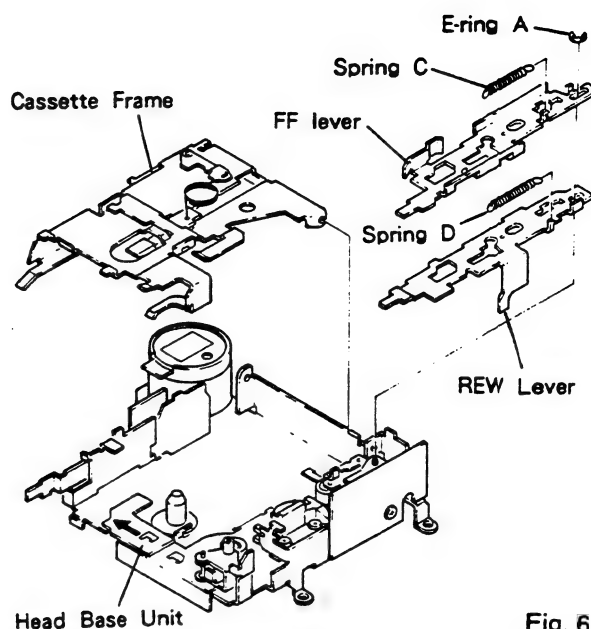

Fig. 6
5. The cassette frame is removed. (Fig.6)
6. Remove springs C and D. (Fig.6)
7. Remove E-ring A. (Fig.6)
8. Remove FF/REW levers. (Fig.6)
9. Move head base unit forward. (Fig.6)